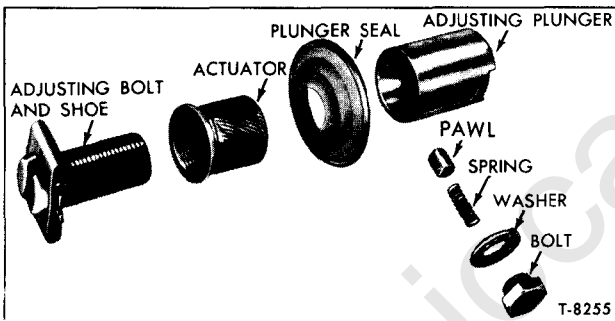

Figure 3—Automatic Adjuster Components
2. Figure 25 (page 5-53) - The term "guide" has been changed to "pawl." This is a nomenclature change ONLY; there is no change in the part. See figure 3.